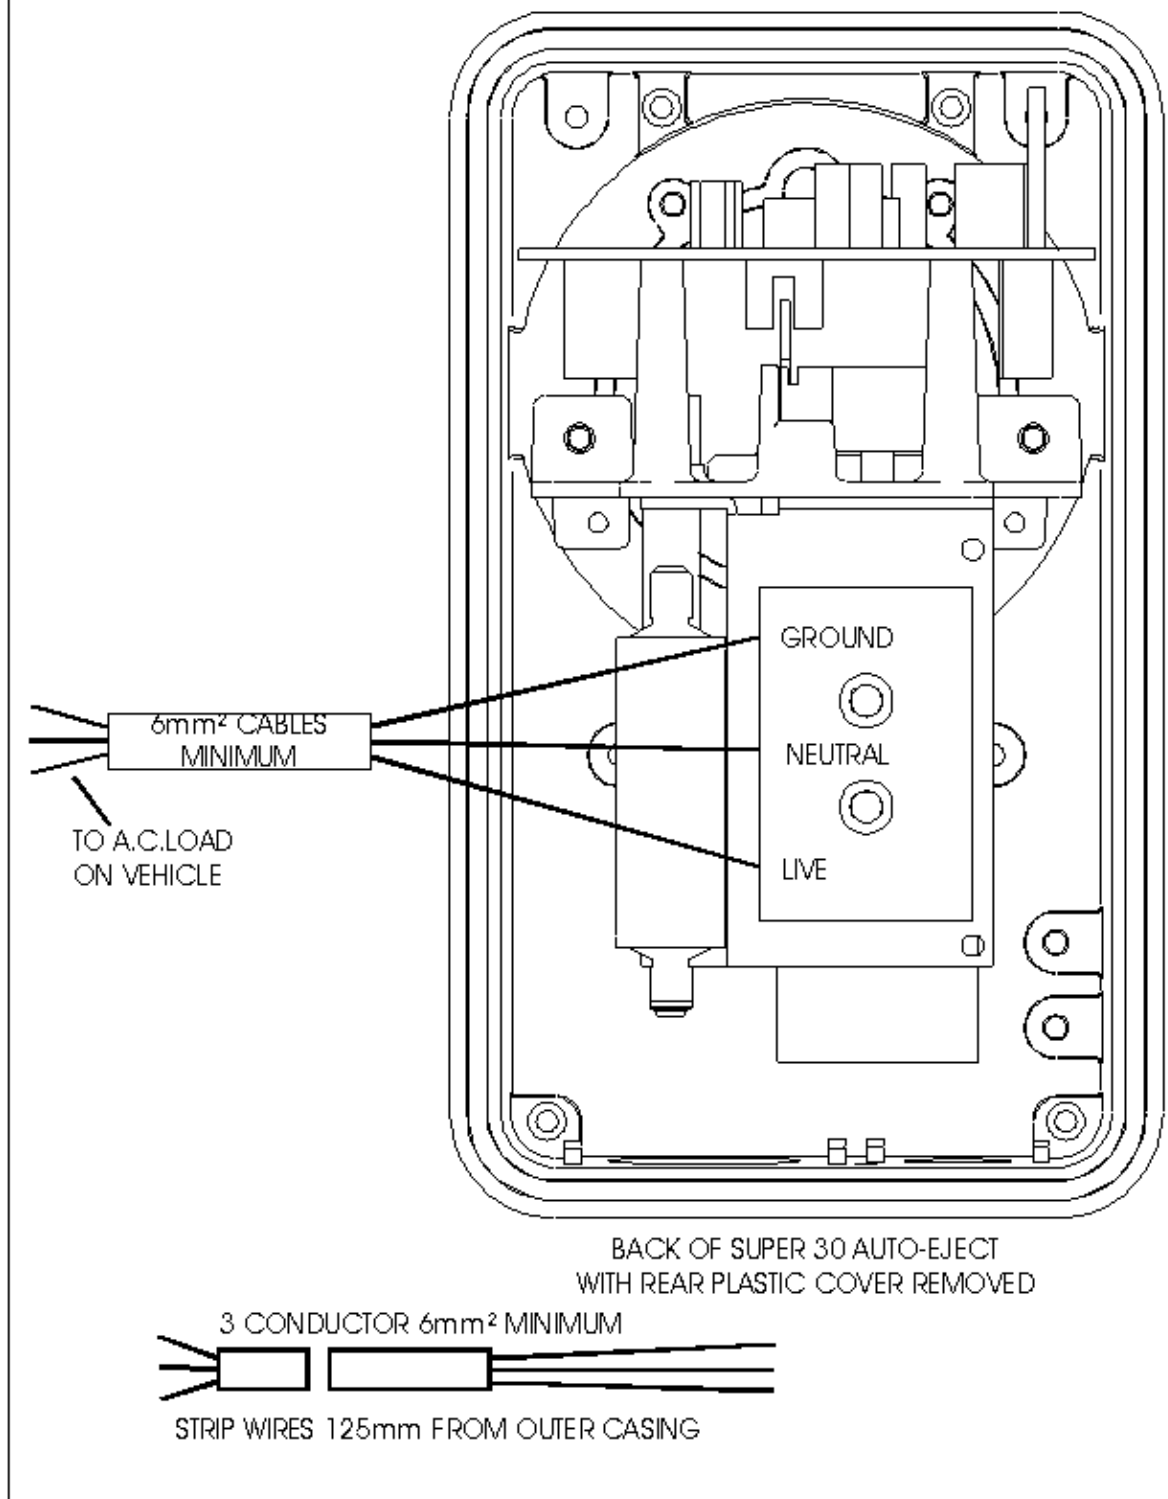

Figure 2: AC wiring connections
3. See figure 2 AC wiring. Snake wires through large cover strain relief and install wires as shown use 6mm2 wire minimum.